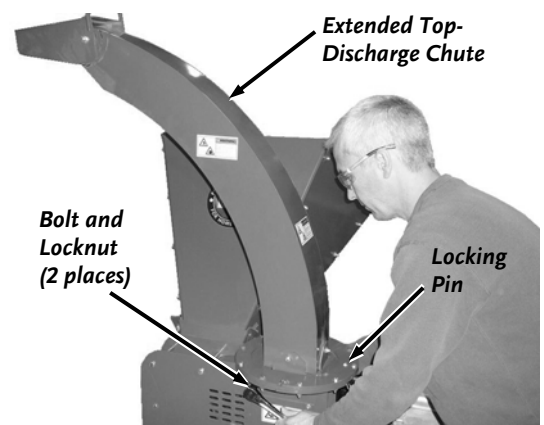

Figure 46
3. Position the Extended Top-Discharge Chute onto the Chipper with the Locking Pin on the outside (side furthest away from the hopper) (**Figure 46**).